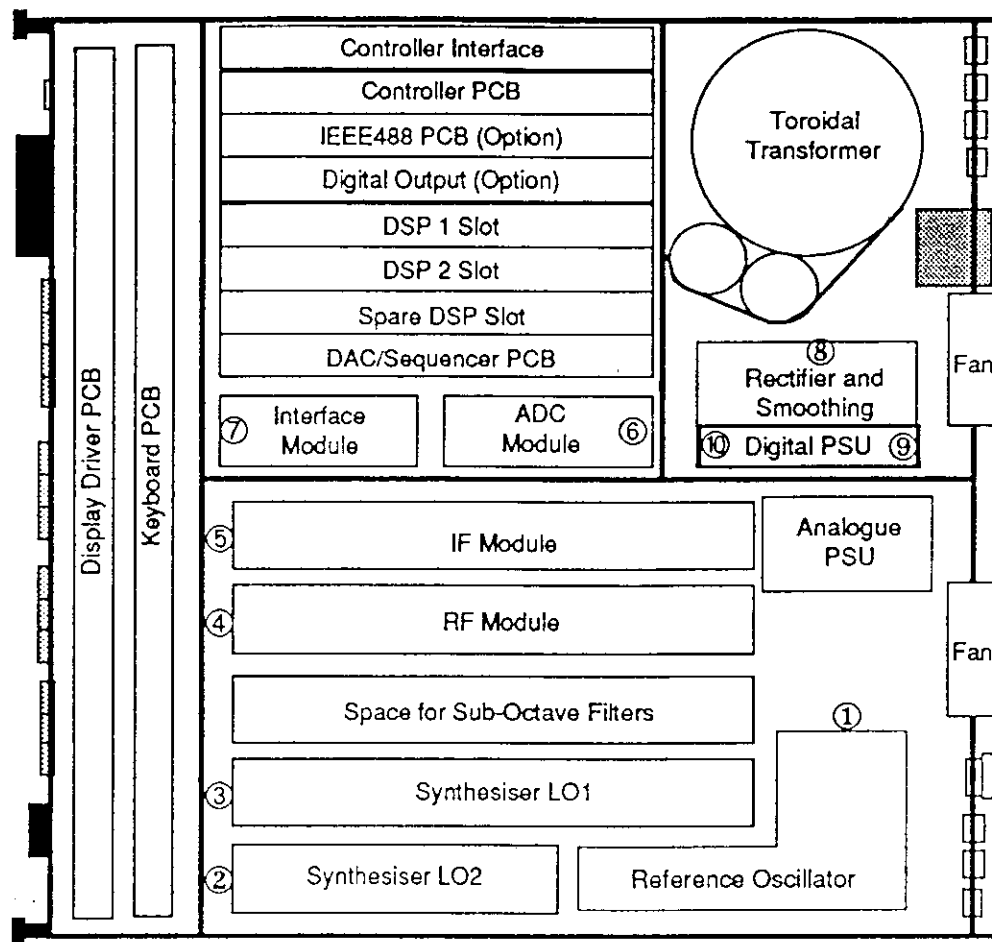

Figure 1 - Internal Layout Diagram
This chapter of the manual details the removal and replacement procedures for the sub assemblies of the receiver. Replacement procedures are given with reference to the General Assembly drawing that is given in Chapter 6 of this manual and the simplified mechanical layout drawing, Figure 1 shown overleaf.
- (1) Remove the unit from the rack as detailed in Paragraph 2.
- (2) Remove the top cover as detailed in Paragraph 4.1.
- (3) With reference to Figure 1, locate the required module.
- (4) Release and remove the module securing screw.
- (5) Gently ease the module forwards and backwards to release the connectors at the base of the unit.
- (6) Use the plastic handle on top of the module to pull it clear.